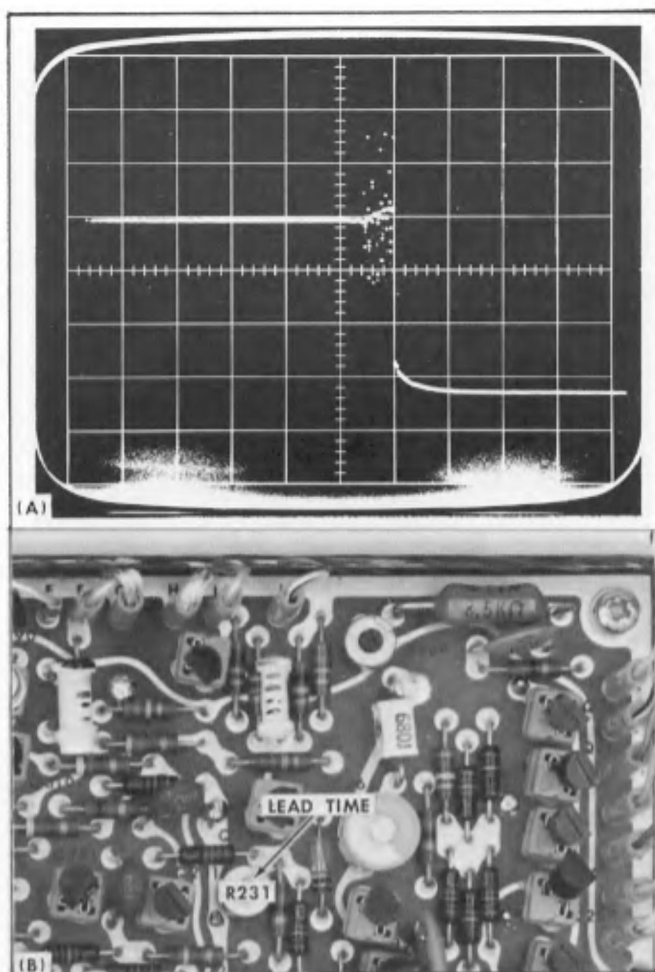

Fig. 7-26. Adjustment of Lead Time (A) Display and (B) Location on Trigger Board Assembly, right side of instrument.
①
- c. Set the START POINT switch to BEFORE TRIGGER and check that the falling edge of the waveform is at the sixth graticule line, see Fig. 7-26(A).